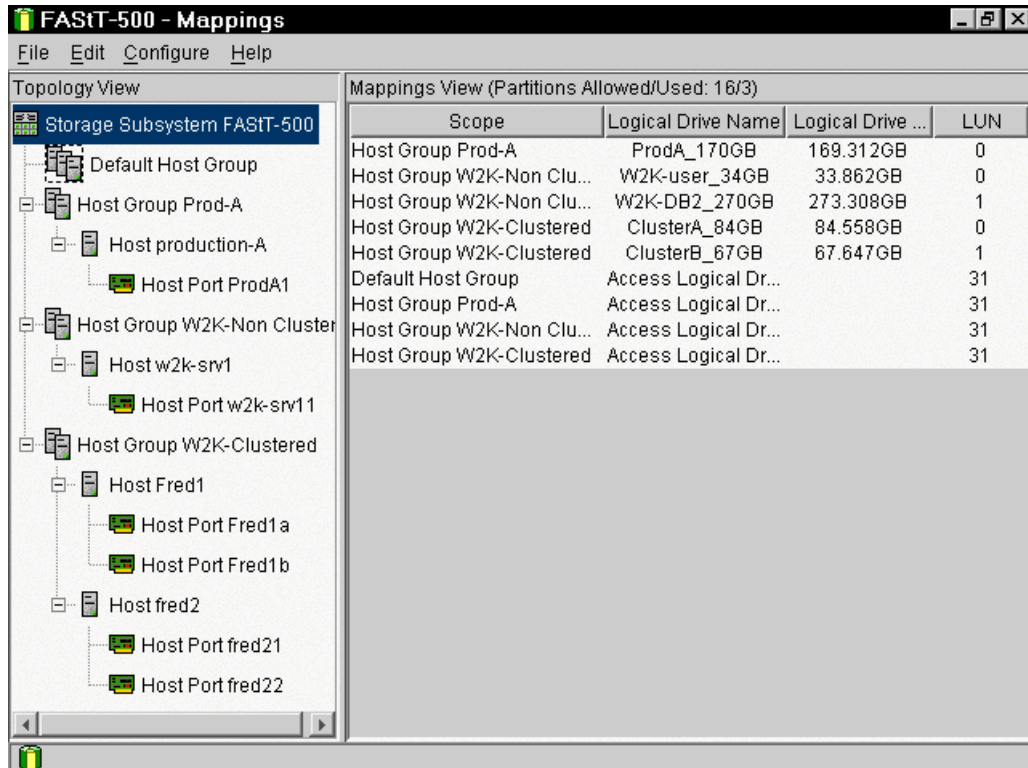

Figure 7-4 Mappings before the update
6. Make a visual note of the defined mappings to which you can compare after the upgrade. This is shown in Figure 7-4. Again this information is stored in the profile.